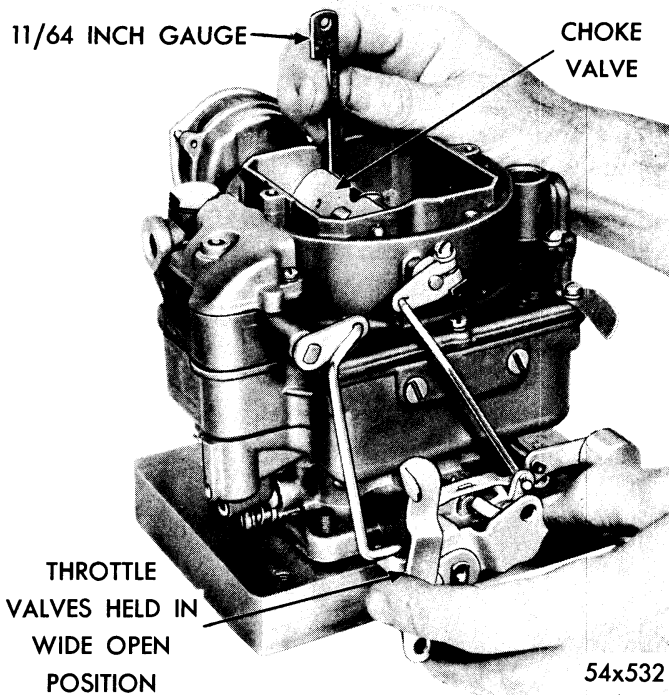

Figure 84—Checking Choke Unloader Adjustment
**Choke Unloader Adjustment**—Hold the primary throttle valves in the wide open position and insert drill between the upper edge of choke valve and inner dividing wall of air horn. Refer to Data and Specification for correct size. See Figure 84. Apply light finger pressure to the upper part of the choke valve. A slight drag should be felt on the gauge as it is withdrawn. If too little or